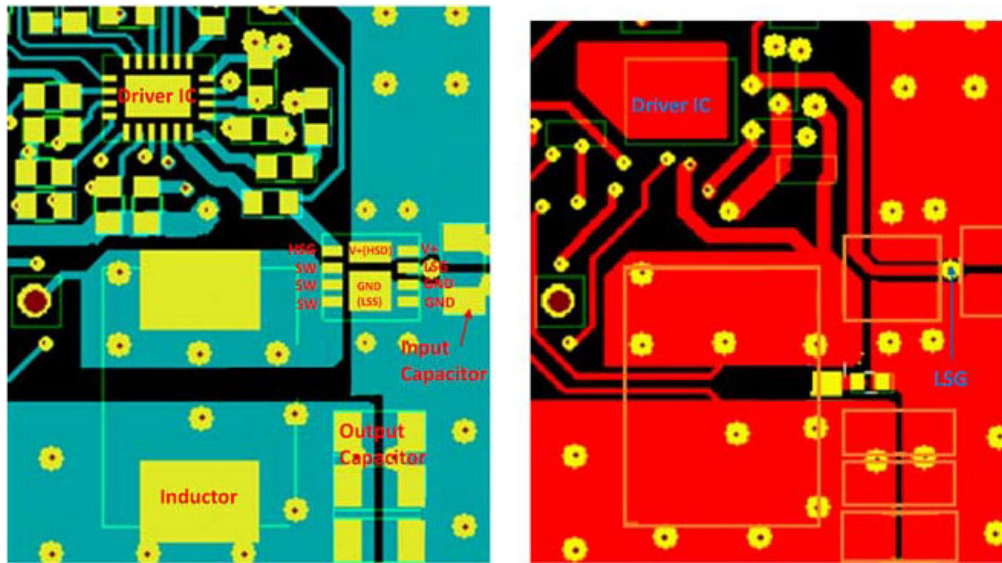

Figure 31. Top/Component (Green) View and Bottom (Red) PCB View
Figure 31 shows an example of a well designed layout. The discussion that follows summarizes the key features of this layout.
- “The SW to inductor copper trace is a high current path. It will also be a high noise region due to switching voltage transients. The trace should be short and wide to enable a low resistance path and to minimize the size of the noise region. Care should be taken to minimize coupling of this trace to adjacent traces. The layout in Figure 31 shows a good example of this short, wide path.
- “The POWERTRENCH Technology MOSFETs used in the Power Clip are effective at minimizing SW node ringing. They incorporate a proprietary design1 that minimizes the peak overshoot ring voltage on the switch node (SW). They allow the part to operate well within the breakdown voltage limits. For most layouts, this eliminates the need to add an external snubber circuit. If the designer chooses to use an RC snubber, it should be placed close to the part between the SW pins and GND / GND(LSS) PAD to dampen the high frequency ringing.
- “The Power Clip has very good Junction-PCB heat transfer from all power pins. It has much better heat transfer Junction-GND (LSS) than traditional dual FET packages. In most cases, board ground will be the most effective heat transfer path on the PCB. Use a large copper area between GND / GND(LSS) PAD pins and board ground. To ensure the best thermal and electrical connection to ground, we recommend using multiple vias to interconnect ground plane layers as shown in Figure 31.